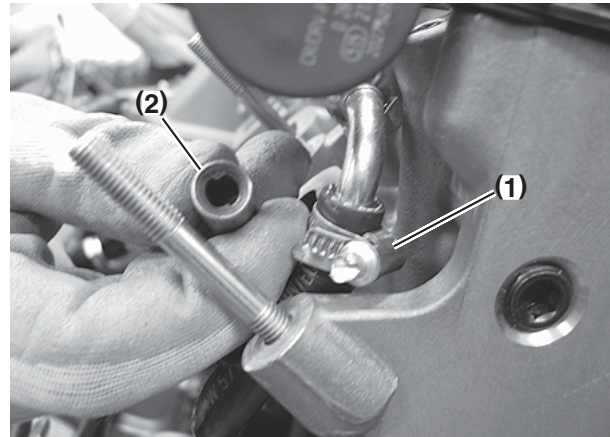

Figure 6-38
- Use special socket (Figure 6-38, (2)) to loosen clamp (Figure 6-38, (1)). Remove the hose.